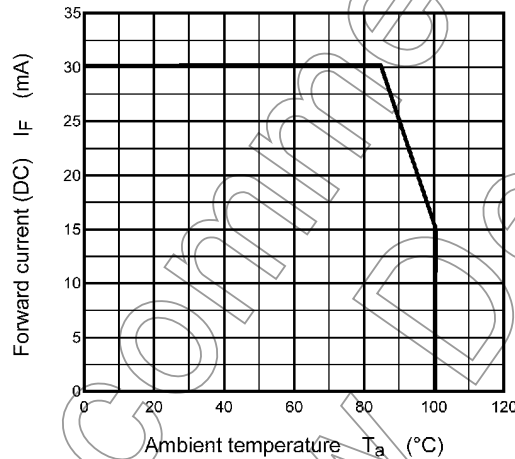

Fig. 4.1 Forward Current Derating, $I_F - T_a$
| Forward current (DC) | I_F | See Fig. 4.1 | 30 | mA |